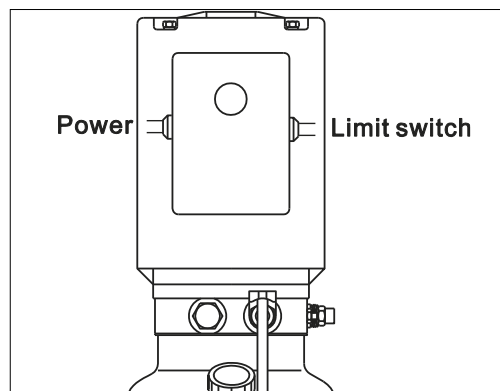

Fig. 35
4.4.3.2 Connect the power supply cable and end limit switch wire to the terminal strip on the junction box of the motor **(Fig. 35)** following the wiring diagram on **Page 4**.
4.4.3.4 Close the cover of the junction box. Press the up push button **(Fig. 35)**, the motor rotation direction should be the one shown by the arrow on the pump.